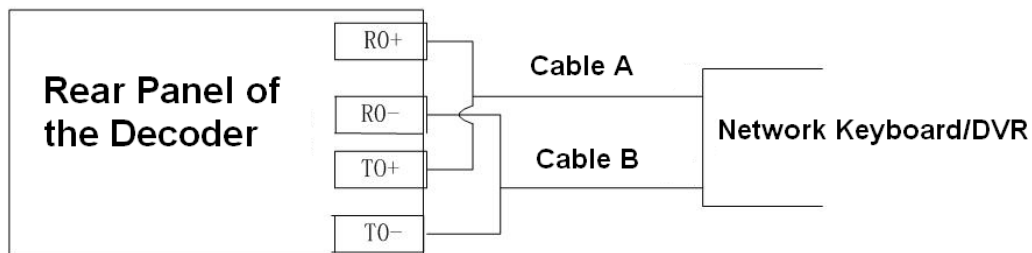

Figure 3-46
- 3) Please refer to Figure 3-46 to connect the decoder to the network keyboard or DVR via RS485.